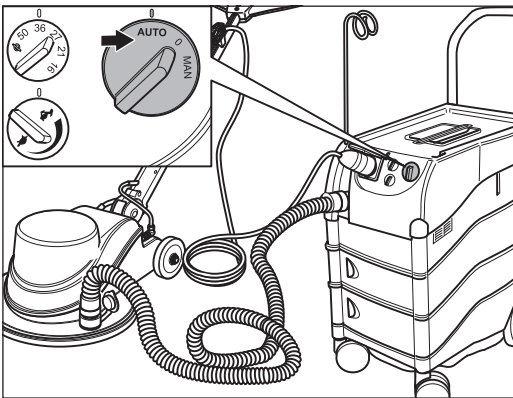

Fig. 25 Set the vacuum cleaner to the AUTO mode setting.
- 4 Switch the vacuum cleaner to AUTO mode (Fig. 25). AUTO mode means that the vacuum cleaner switches on and off automatically when the SINGLE is switched on and off.